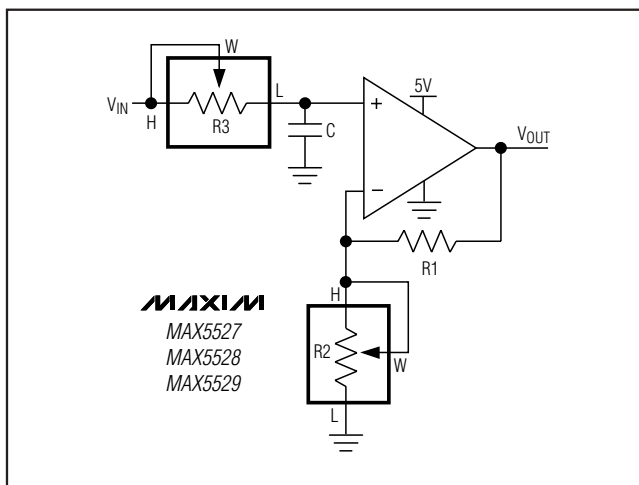

Figure 9. Programmable Filter
Figure 9 shows the configuration for a 1st-order programmable filter. The gain of the filter is adjusted by R2, and the cutoff frequency is adjusted by R3. Use the following equations to calculate the gain (G), and the -3dB cutoff frequency (f_c), only up to frequencies one decade below the wiper -3dB bandwidth.